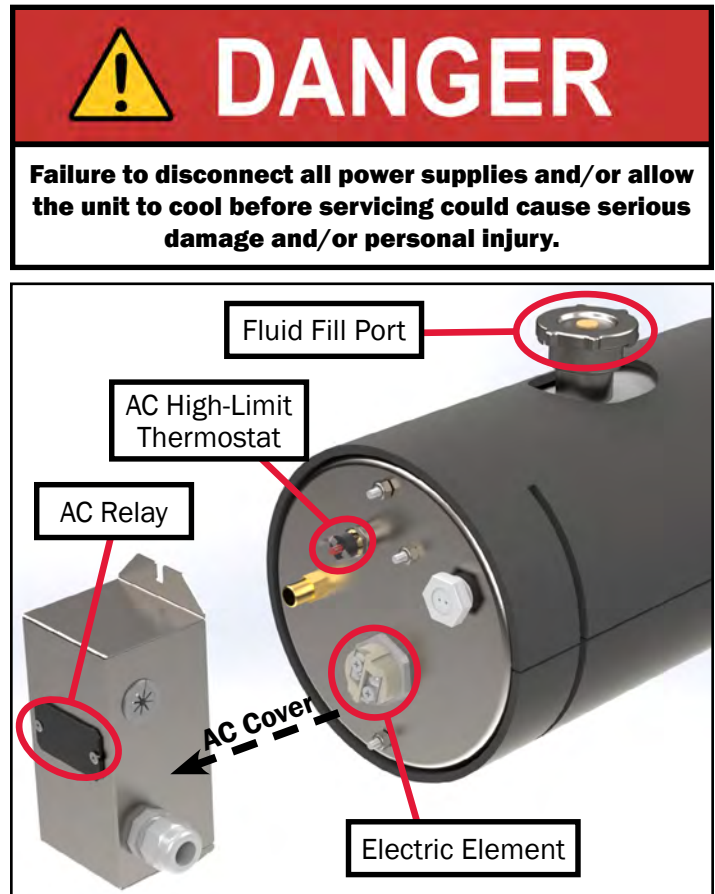

Figure 57
3. Remove the AC access panel on the Aqua-Hot (Figure 57).